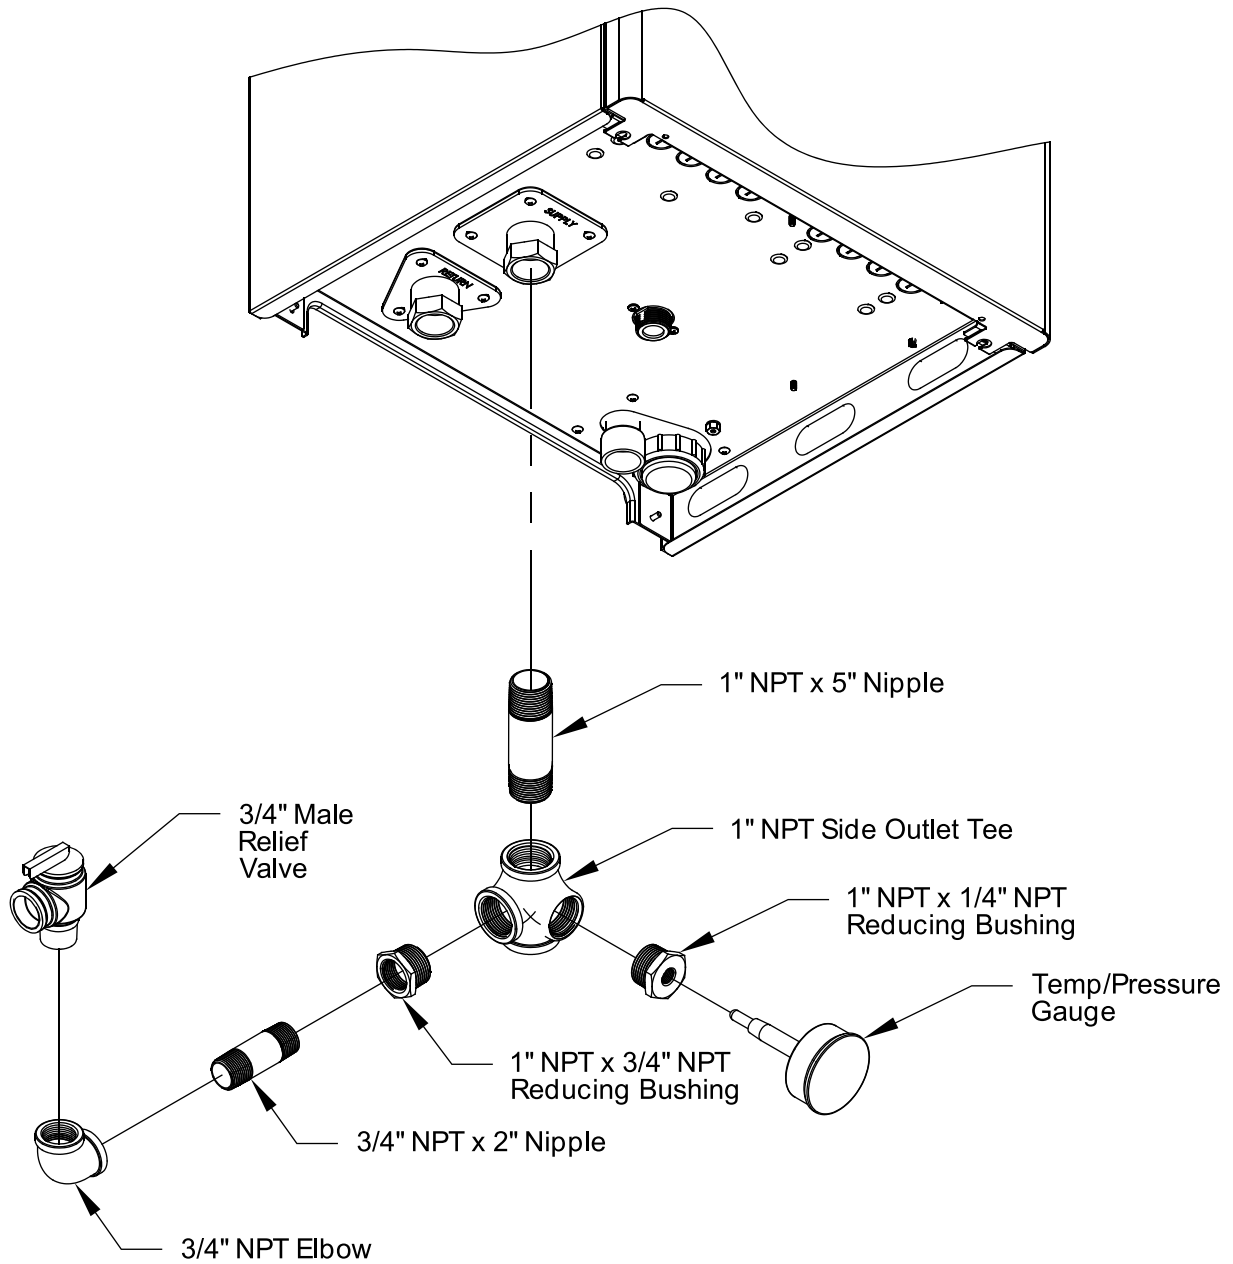

Figure 10-5: Near Boiler Piping Supplied with Boiler
12. Near boiler piping supplied with boiler. See Figure 10-5 for more details.